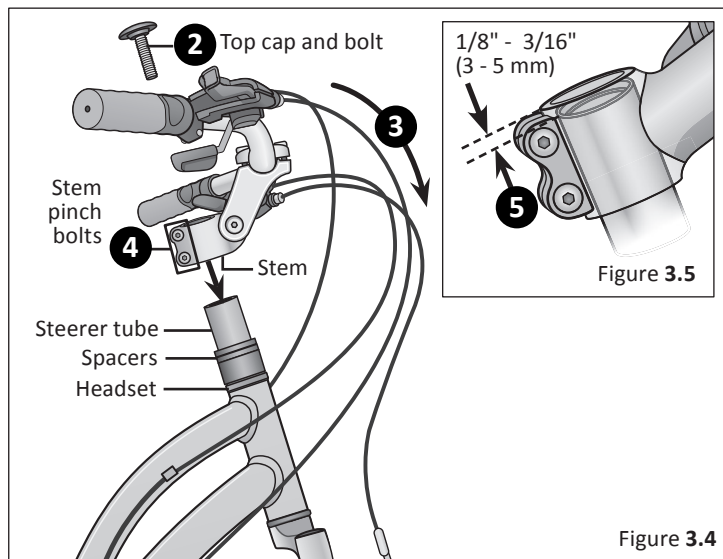

Figure 3.4
- 1 Turn the front fork to face forward (i.e. the fork dropout is in the furthest forward position). Figure 3.4